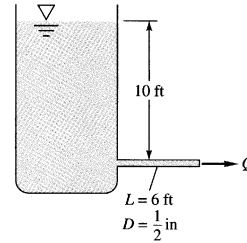

Fig. P6.19
6.19 An oil ($SG = 0.9$) issues from the pipe in Fig. P6.19 at $Q = 35$ ft³/h. What is the kinematic viscosity of the oil in ft²/s? Is the flow laminar?